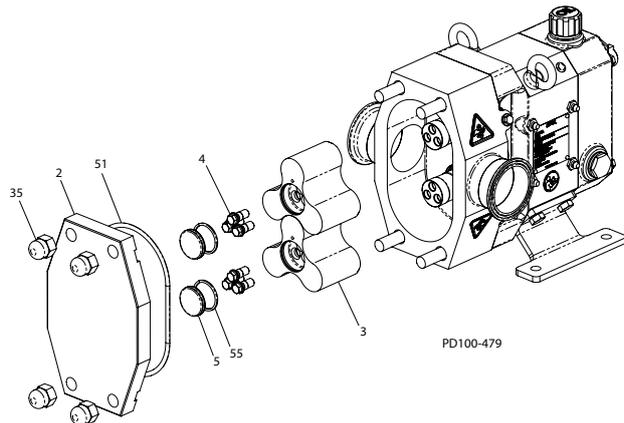

Figure 30 - Pump Cover and Rotor Removal
**Table 4: Callout table for Figure 30**
1. Remove the cover acorn nuts (Figure 30, item 35).
2. Remove the cover (item 2). Cavities are provided on the mounting surface of the cover to permit removing the cover with the aid of a screwdriver.
3. Remove and inspect the o-ring (item 51).
1. Remove the screw caps (Figure 30, item 5) from the rotors (item 3). Remove and inspect the o-rings (item 55).
2. Remove the rotor lug screws (item 4). To prevent the rotors from turning while loosening (or tightening) the rotor lug screws, block the rotors following the guidelines provided in the "Rotor Blocking" section par. 8.6.3.
3. Remove the rotors (Figure 30, item 3). If the rotors cannot be removed by hand, use a twisting motion to break them free. If unsuccessful, tap the body forward using a mallet to loosen the rotors.